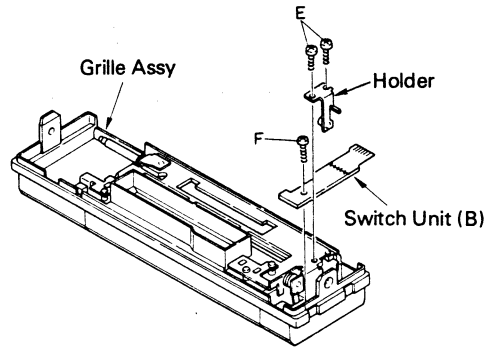

Fig. 9
1. Remove the two screws labeled "E" and take off the holder. The holder supports the display unit and allows it to turn, so it should be slid to the side and removed. (Fig. 9)